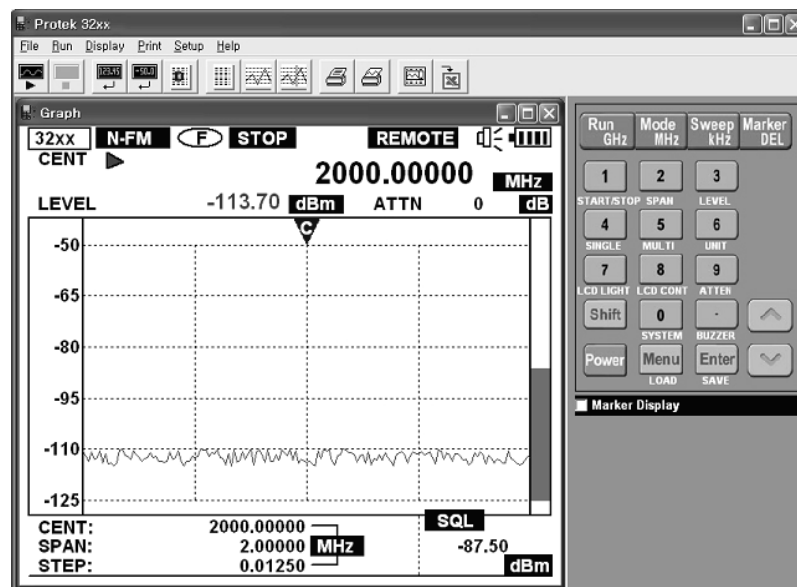

Figure 4.17. Graph window
- 1) Main menu display → select graph or click two times measuring instrument GUI of LCD display window. As figure 4.17 execute graph window.